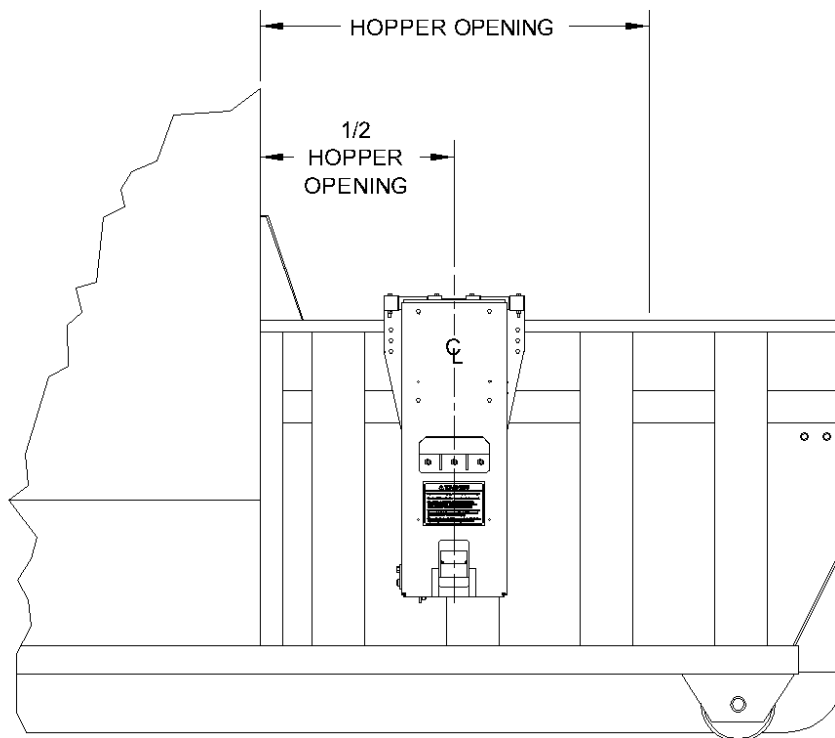

figure I-1
3. Position the lifter on the side of the compactor per *figure I-1* and mounting height drawing (*Appendix A*) and weld in place. If installing with the use of a mounting plate kit for bolt-on applications, weld the mounting plate in place and attach the lifter using the studs, washers, and nuts supplied.